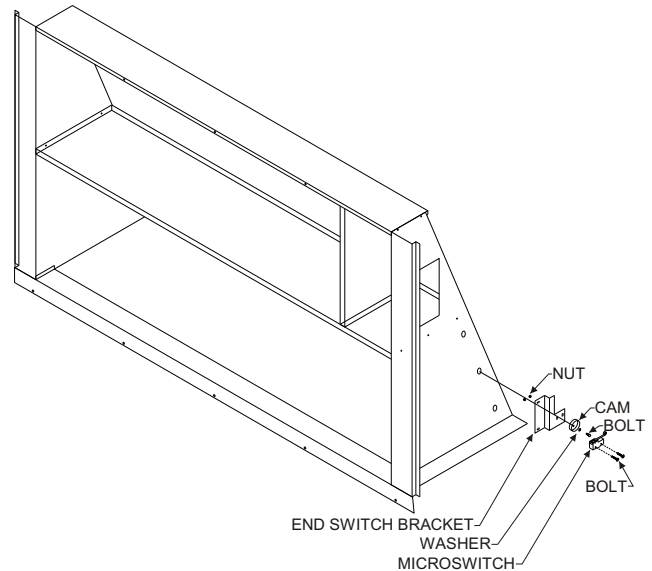

Figure 2
6. Install the cam on the economizer exposed blade pivot with shoulder pointing outward by attaching with provide 10-32 x 1" screw and rubber washer. Position cam and screw, but do not completely tighten screw. Next attach switch bracket to economizer end plate using provided 1/2" self-tapping screws. Then mount switch to bracket using the oblong holes with provided 6-32 x 1" bolts and nuts. **See Figure 2.** This cam will trip the end switch S122 when damper rotates. Set the end switch arm so that it closes when fresh air dampers are open 50% or greater. Tighten screw to secure cam.
13. Using lifting lugs, raise ERV unit approximately three (3) feet. Remove nut and bolt assembly to slide